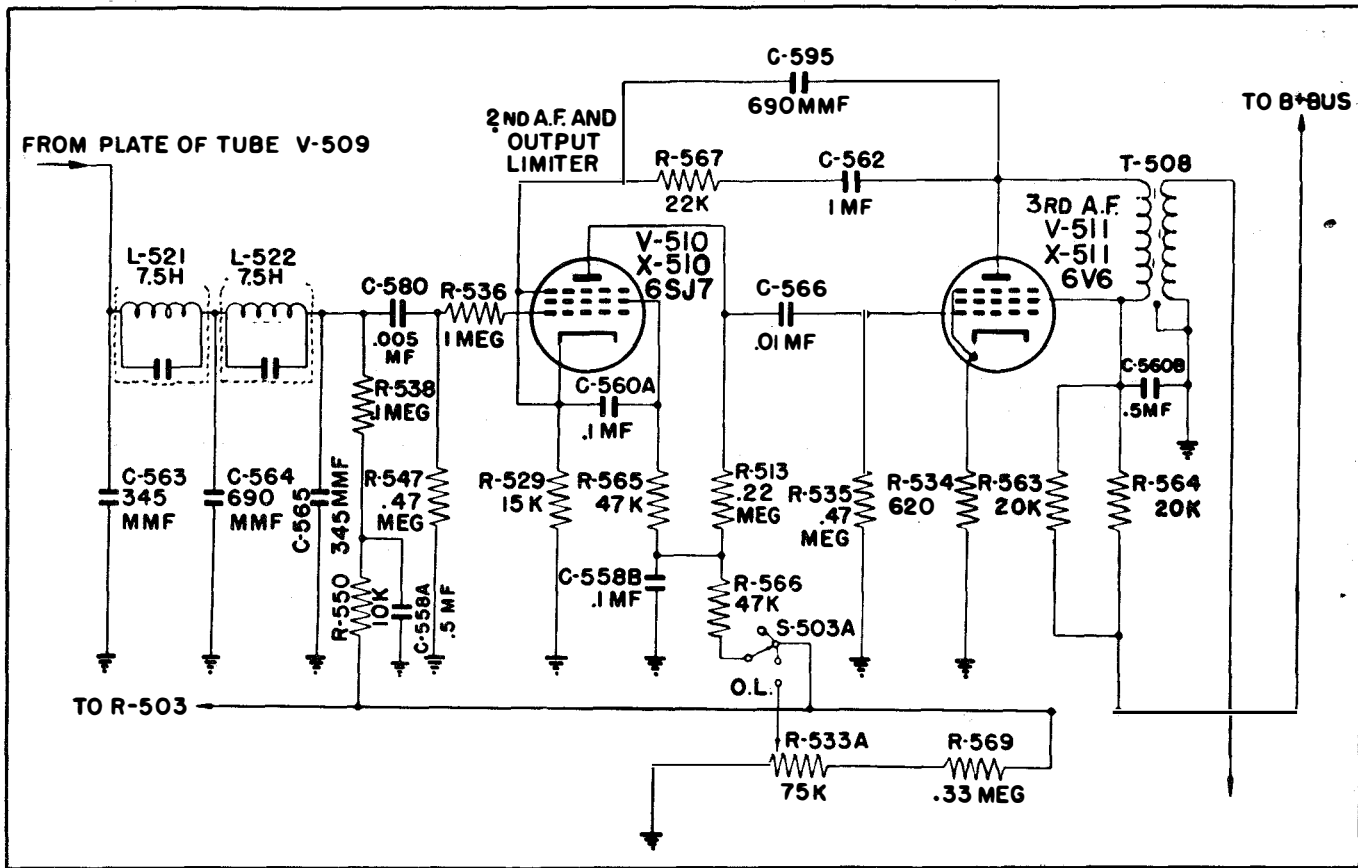

Figure 2-12. Audio Filter and Receiver Output
The first audio amplifier is composed of the type 6SK7 electron tube V-509 and its associated resistors and capacitors (R-503, R-530, R-533B, R-538, R-550, R-562, R-571, C-550A, C-550B, C-557, C-558A and C-576). The plate circuit of V-509 contains a low pass filter consisting of the tuned reactive elements L-521 and L-522, and capacitors C-563, C-564, and C-565. This filter attenuates audio frequencies above 3500 cycles per second (Figure 2-12).
g. THE AUDIO OUTPUT CIRCUIT (V-511). (See Figure 2-12):